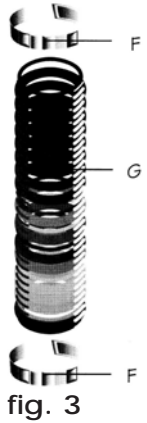

fig. 3
- Connect spigot "R" to the external ducting by means of rigid or flexible duct (not provided) to be fixed using clamps "F" (fig.3) provided.